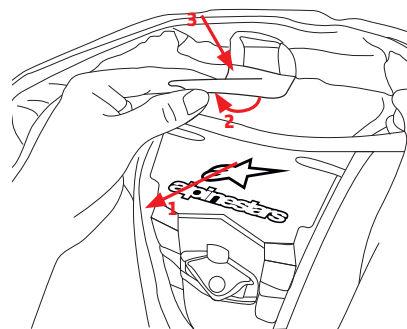
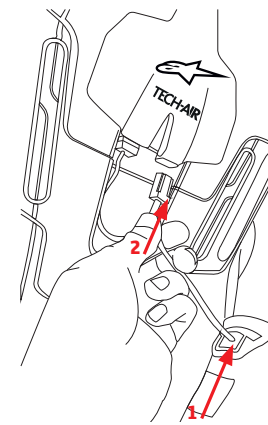

Figure 6
Figure 7
3. Fold out the second hook and loop flap (12) and attach the collar hook and loop fastener on the Vest (13) to this new flap, centering it correctly (Figure 6).
4. Proceed to attach the lower shoulder hook and loop fastener (15) and upper shoulder hook and loop fastener (14) to the corresponding patches inside the suit lining on both the left and right shoulders.
5. Remove the LED display plug from the storage pocket (17) and plug it into the grey socket (5) (Figure 7).
8. Use the yellow zips on the suit (10) and the vest (1) to zip the Vest into the suit.